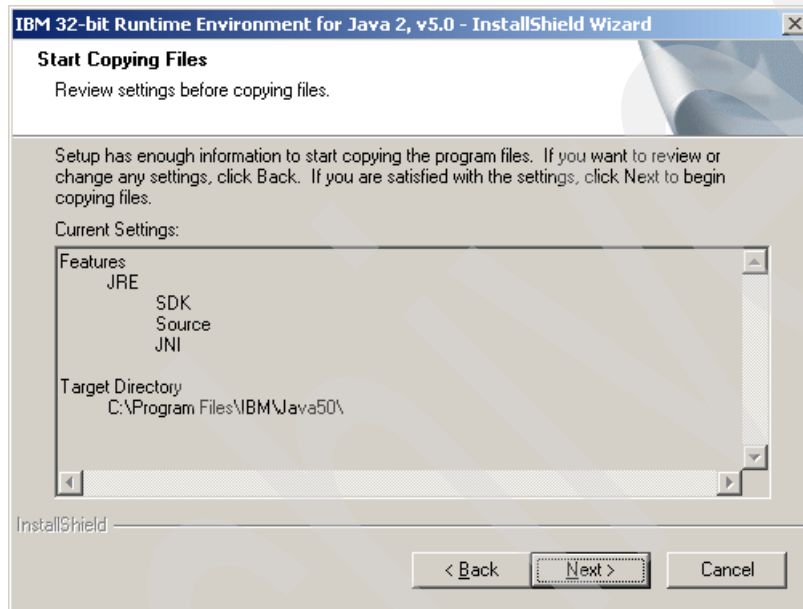

Figure 6-6 Start Copying Files window
5. The Start Copying Files window (Figure 6-6) is displayed. Click **Next**.